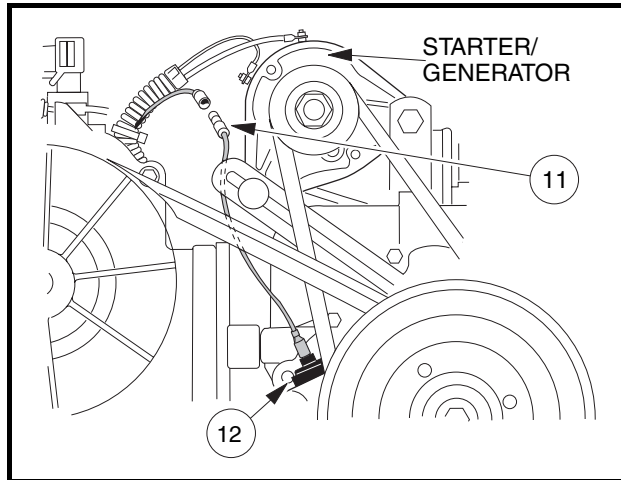

Figure 15-2 Oil Level Sensor Wire
1. Remove yellow jumper wire (11) from cord connector (12) **(Figure 15-2, Page 15-4).**
2. Disconnect the oil level sensor wire (2) from the cord connection (1) (**Figure 15-2, Page 15-4**).
3. Remove the screw (3) from the wire clamp (4).
5. If necessary, remove the three screws (7) that hold the sensor to the bracket (5).
5. Connect the yellow jumper wire (11) to the cord connector (12) (**Figure 15-2, Page 15-4**).